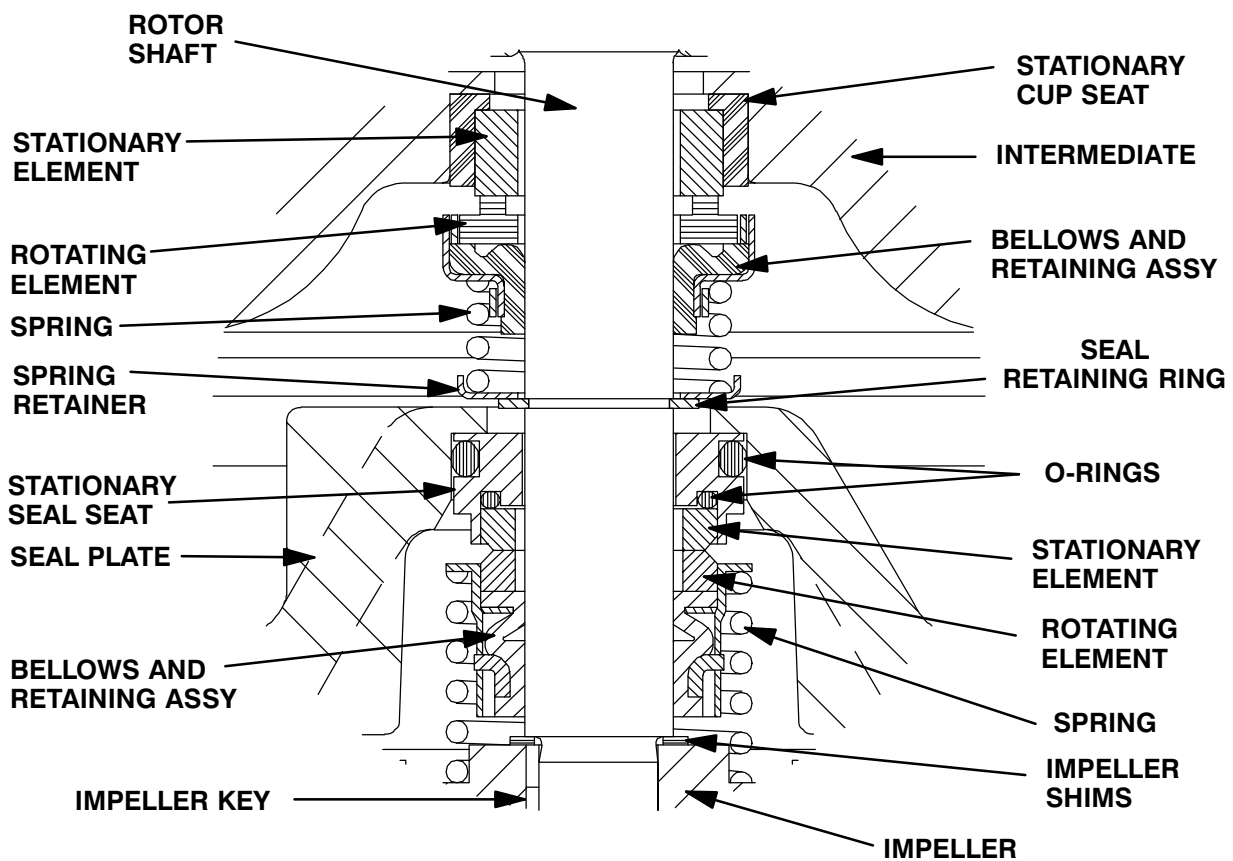

Figure 3. Upper And Lower Seal Assemblies
Install the shaft seals as illustrated in Figure 3.
Apply a **light** coating of oil to the seal seating surface on the shaft, the groove for the retaining ring (8), and I.D. of the bellows. Inspect the seal face to ensure that it is clean and dry. If cleaning is necessary, use a clean tissue to wipe in a circular pattern. Slide the seal rotating portion onto the lubricated shaft as shown in Figure 3. Apply firm, steady pressure on the seal retainer until it slides down the shaft and the seal faces contact.
ing ring (8). See Figure 3 for the proper order of seal assembly.
Unpack the stationary seat and element, and check that the O-rings are properly installed (see Figure 3). Subassemble the stationary element in the stationary seat. Apply a **light** coating of oil to the seal plate bore and the O.D. of the of the seal seat. Keep the sealing face dry.
Slide the seal spring over the shaft and bellows retainer. See Figure 3 for proper order of seal assembly.